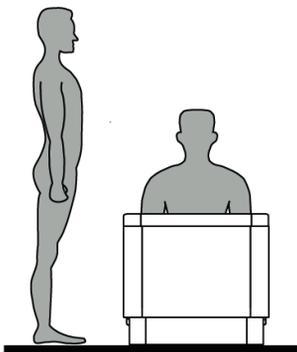

Fig 3
3. When bathing is completed, lower the bath full of water to the lowest level (fig 3), by pressing and holding the bath down icon.